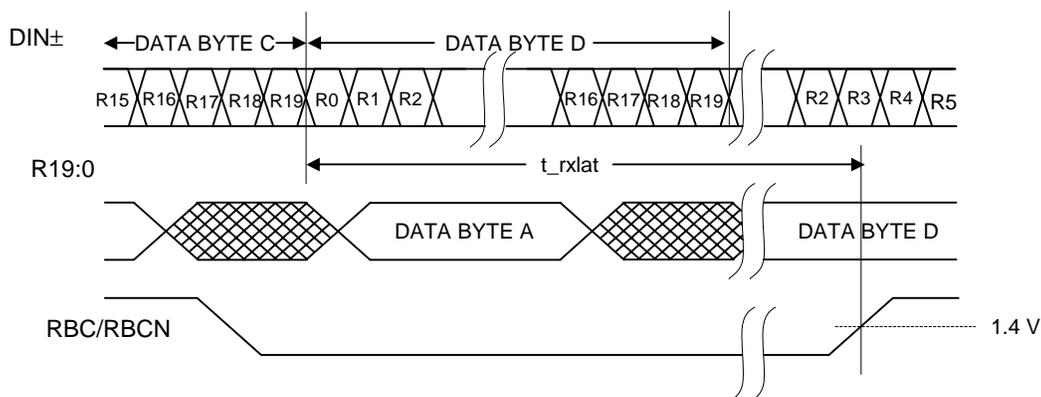

Figure 8. Receiver Latency
2. The receiver latency as shown in Figure 8, is defined as the time between receiving the first serial bit of a parallel data word (defined as the first edge of the first serial bit) and the clocking out of that parallel word (defined by the rising edge of the receive byte clock, either RBC or RBCN).